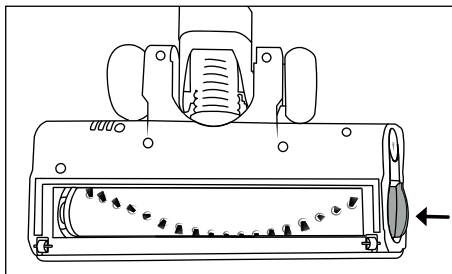

Fig. 28
- 4) Insert the rotary brush **20** in the floor brush **21** until it audibly clicks into place and is firmly seated in the floor brush **21** (see Fig. 28).